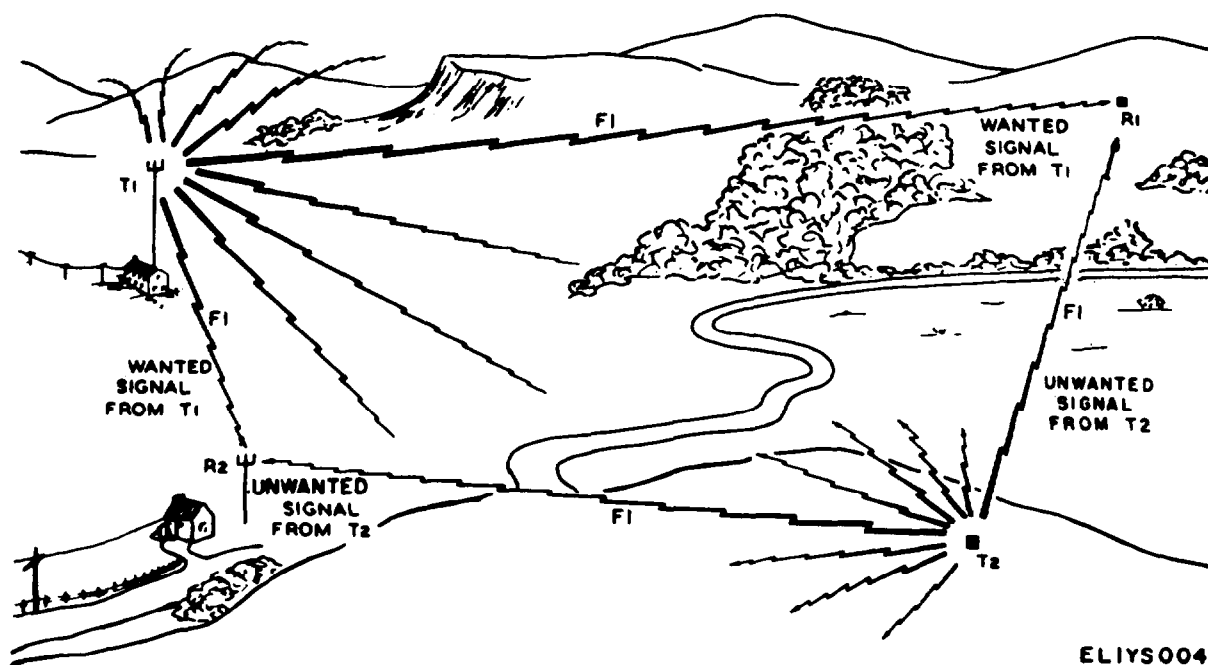

Figure 1-4. Unconfined nature of radio propagation.
*a. Introduction* Figure 1-4 illustrates a typical field communication network where T1 can either be a command post or field unit, transmitting messages to field units located at R1 and R2 on assigned frequency F1. Transmitter T2 is located within the radio propagation area and can be either a friendly or unfriendly transmitting unit, which also is radiating a signal on the same frequency F1 or within the bandwidth that will interfere with F1. Depending on the relative signal strength of the signals reaching R1 and R2, the operator at each of these two locations will be able to copy the wanted signal from T1 with little difficulty, great difficulty, or not at all. The primary pur-
*b. Basic System Use.* The conditions described in a above can be simulated either in the field or in a class room. This is done by using the SG-886A-T/UR with the transmitter located at T2 (fig. 1-4) in a field setup, or by simulating such a network in the classroom. It should be noted that the setups described here will be typical; specific setups will be tailored by the user organization to fit the tactical communications network in use. Two types of training are described: copy-through interference training to improve the ability of operator to copy-through interference and antijamming training to provide the operator with a type of condition that will require him to follow antijamming procedures as directed by his local, standard, operating procedures. Various types of interference will be discussed, which fall into the categories of internal modulation that is within the internal capabilities of the SG-886A-T/UR and external modulation that uses the SG-886A-T/UR with signals from an external source.
a. *General.* The SG-866A-T/UR is designed for use in a system; therefore, it requires two or more standard communications sets, one to be used as the interference source position and one or more to be used as the network training positions (fig. 1-4.) If an external source is to simulate various types of interference, a suitable source such as a communications receiver is also required in addition to the standard communication sets. Additional pieces of optional equipment that may be used are illustrated in figure 1-5 and 1-7.
(1) Listed in the following chart (unless otherwise